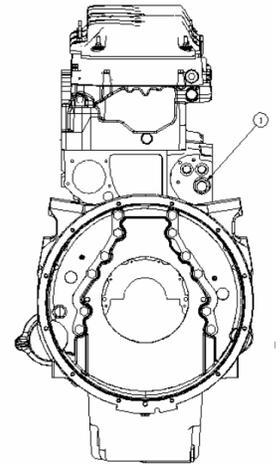

Figure 1 - C13
2. Remove the 1 3/16" plug located in the oil cooler on the right side of the engine (see Figures 1 and 2).